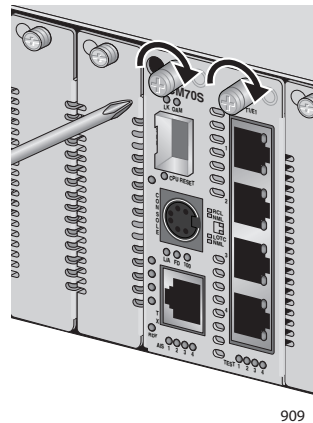

Figure 54. Tightening the Captive Screw on the AT-CM70S Line Card
- Use a Phillips screwdriver to tighten the captive screw on the line card, as shown in Figure 54.